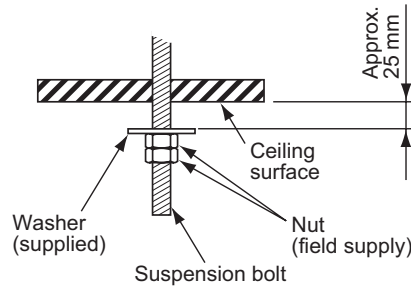

Fig. 2-76
- (7) Suspend the indoor unit as follows:
a) Mount 1 washer and 2 hexagonal nuts on each suspension bolt (Fig. 2-76).